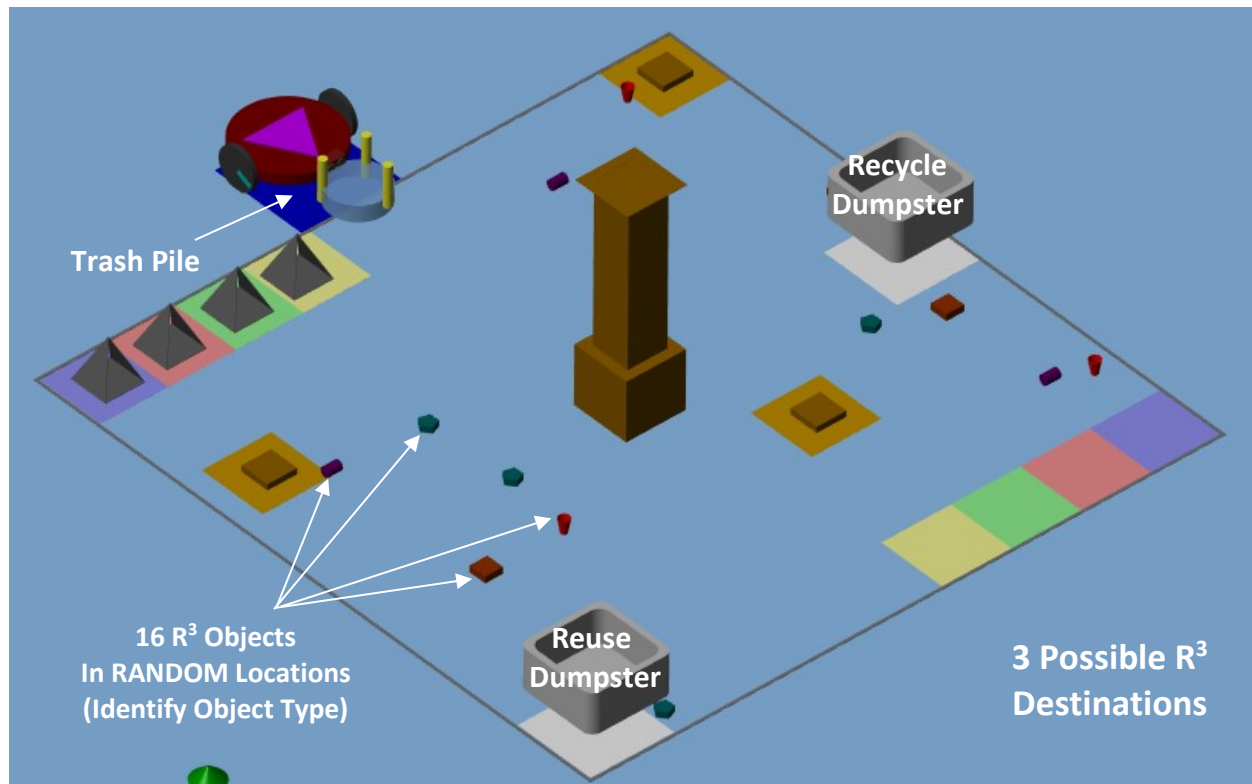

Figure 2.7. Phase 4 Field Layout & Objectives
- Figure 2.7 represents the field layout expected during Phase 4.
- Three (3) light poles are preloaded onto the virtual robot at the beginning of the phase. These light poles play no role in this Phase.